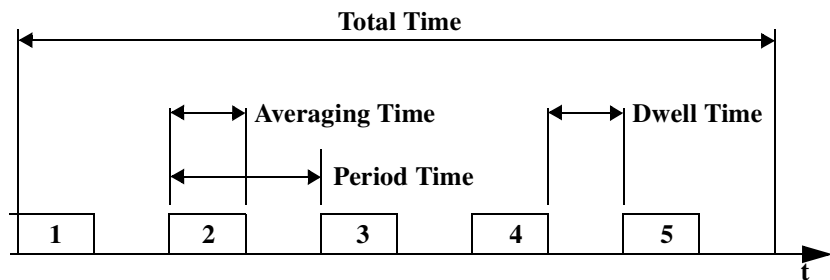

Figure 153 Example Stability Application
- The averaging time is less than the period time, there is a dwell time between the commencement of each power measurement, as shown in Figure 153. This can happen because: